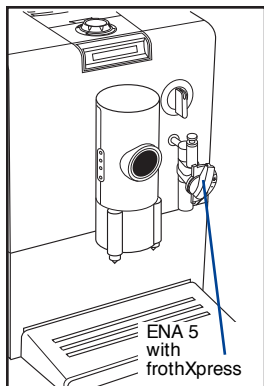

Fig. 3
ENA 5 shown in Fig. 3
11. Height Adjustable Dual Coffee Spout (ENA 3, ENA 4); ENA 5: (Fig. 3)